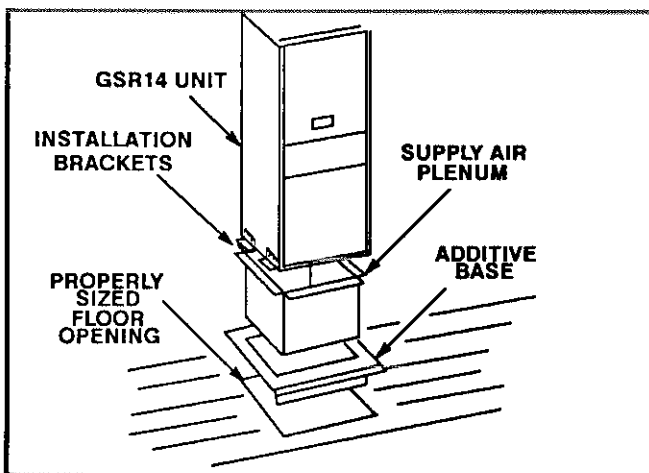

FIGURE 7
- 2- Set additive base (available separately as Lennox kit number LB-80639BB) in opening between the furnace and the floor. See figure 7.
- 5- Set unit on additive base so unit flanges drop into plenum. Refer to figure 7.